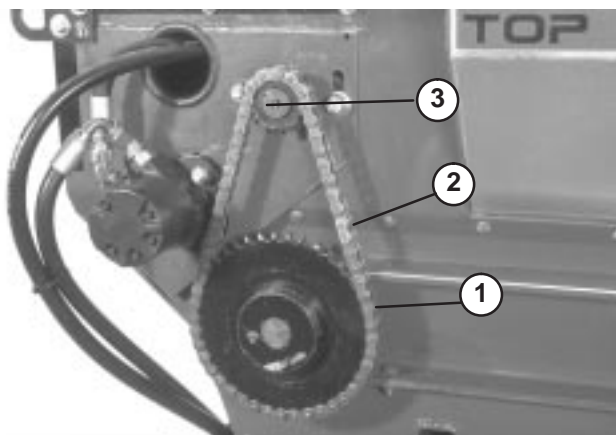

Figure 25
2. Remove master link from chain and remove chain from small sprocket (Fig. 25).